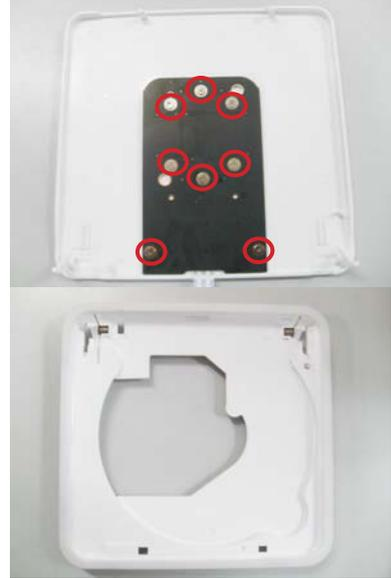

Fig.4
4. Divided the top into the door and function button discreteness and the middle cabinet discreteness, remove screws to remove the function PCB from the door and function button discreteness as Fig.4.